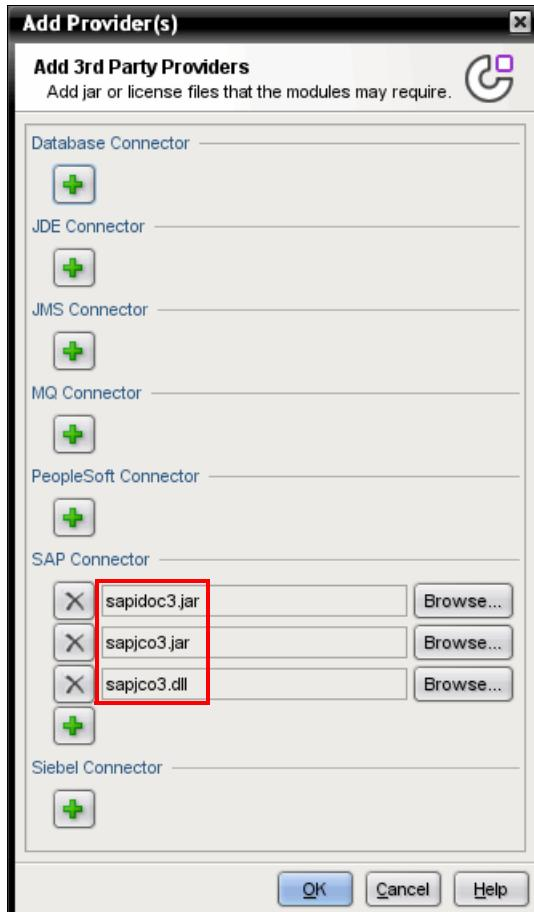

Figure 2-13 Studio: Add module providers
2. Click the plus sign (+) under SAP Connector to add the SAP JCo V3 Java libraries, sapjco3.jar and sapidoc3.jar, and the native SAP library, sapjco3.dll, as highlighted in Figure 2-13. (Studio is Windows-based, so the Windows version of the native libraries are needed.)